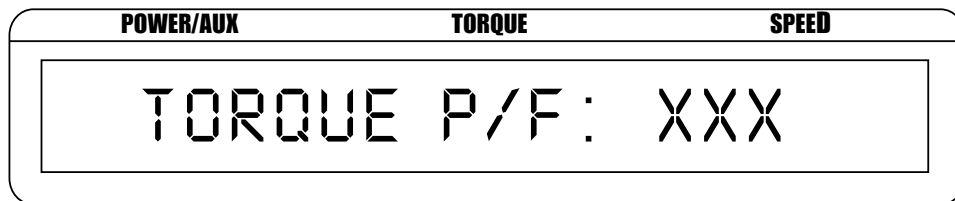

Figure 4-9 Torque Pass/Fail Setup Menu
18. If ON was selected, press and release SHIFT. The High Limit Setup Display (as seen in Figure 4-9) appears.